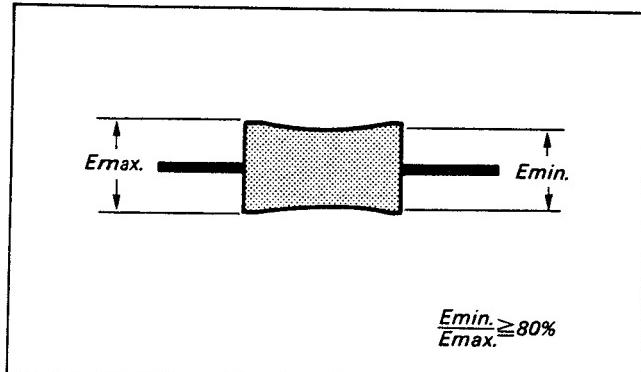

Fig. 4-18
- 3) Confirm that the RF waveform amplitude minimum value (E_{min}) at this time is more than 80% of maximum value (E_{max}). (Fig. 4-18)
- 4) Check that the fluctuation amount of RF waveform entrance and exit sides both is as shown in Fig. 4-18.